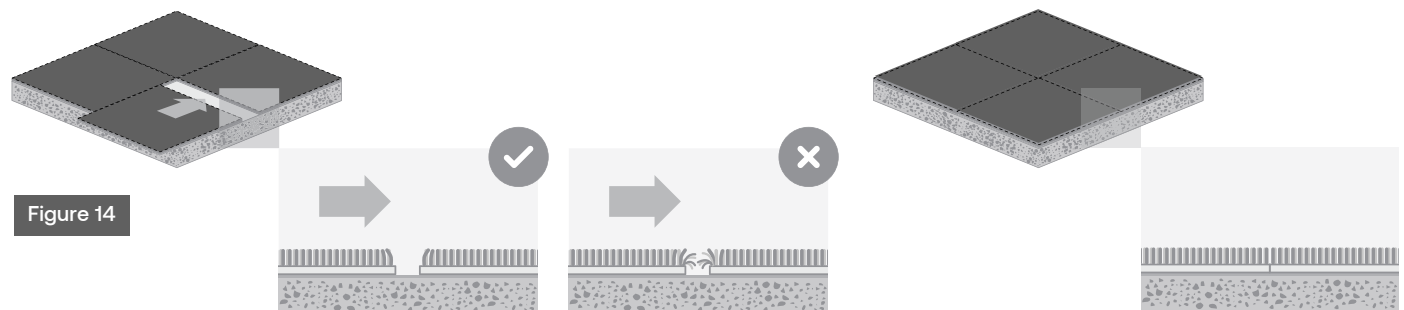

Figure 14
3. Take caution to prevent any pile from getting caught in the joint between tiles (refer to Figure 14 for visual guidance).